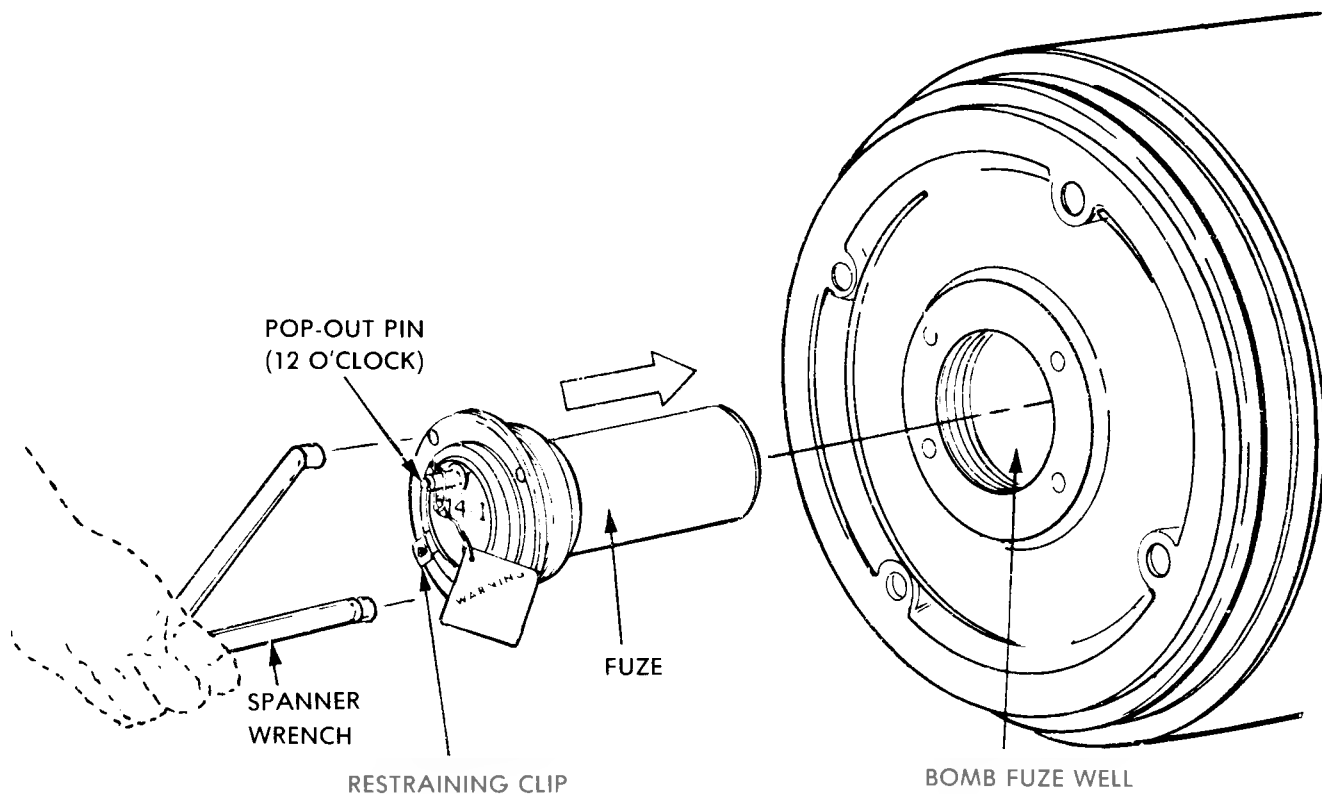

Figure 7-21. Typical Installation of an Electric Fuze in Low-Drag Bomb MK 80 Series
2. Referring to figure 7-21, insert fuze into tail fuze well and tighten hand tight. With a spanner wrench, tighten fuze until flange is seated against bomb.